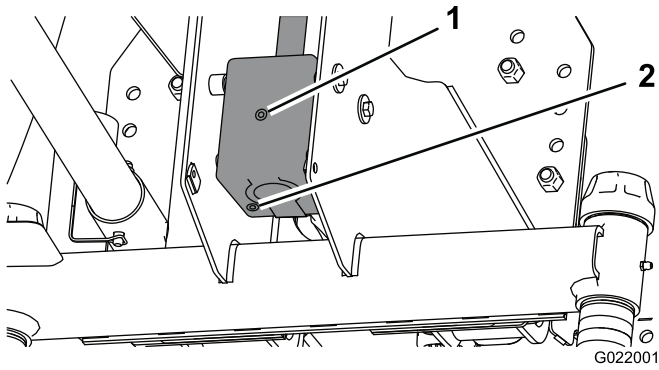

Figure 25
4. Remove the check/fill plug from the side of the gear box (Figure 25).